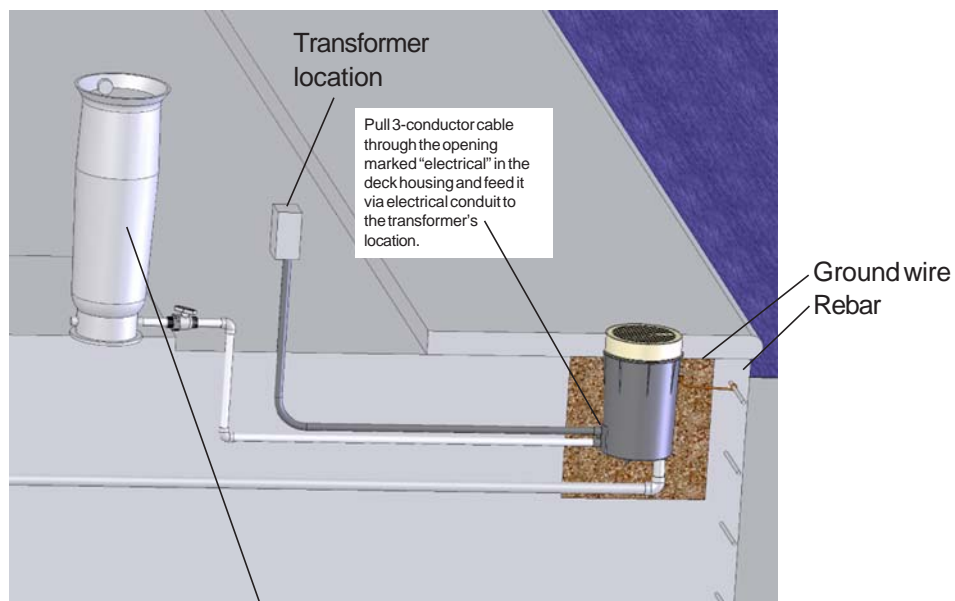

Figure 2 Filter
1. Pull the 16 gauge, 3-conductor cable through the opening marked “electrical” in the deck housing and feed it via electrical conduit to the transformer’s location (Figure 2). Leave 3 feet of slack at the deck housing end to allow easy servicing.